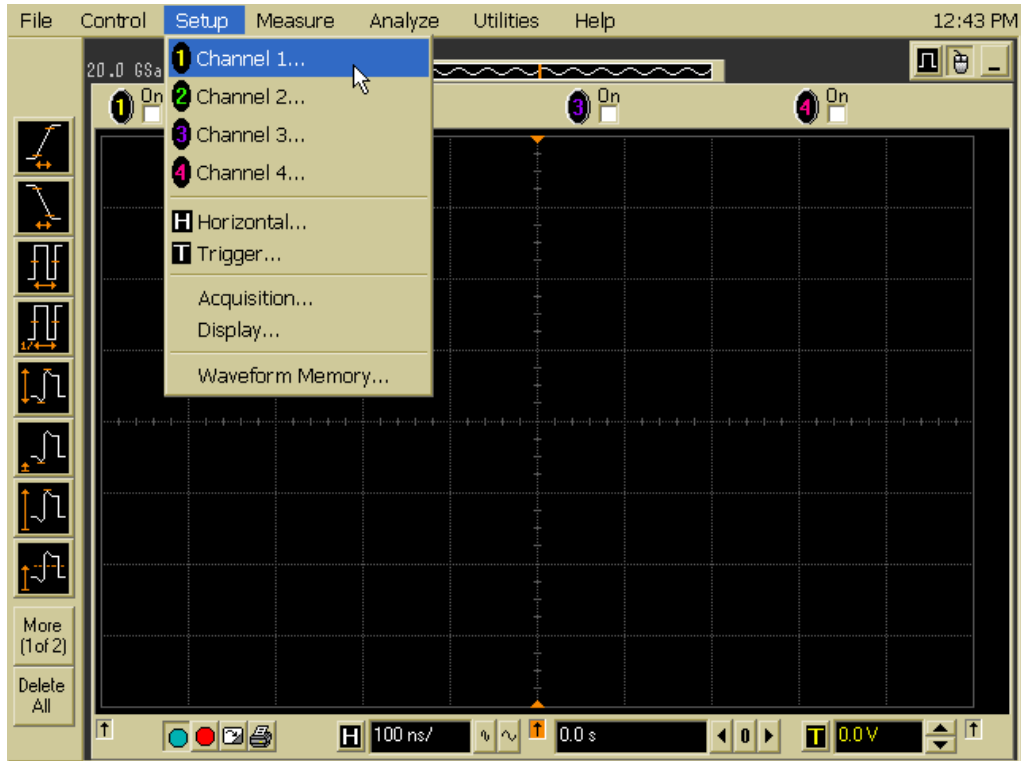

Figure 64 Channel Setup Window.
- 1 On the Infiniium oscilloscope in the Setup menu, select the channel connected to the probe, as shown in Figure 64.